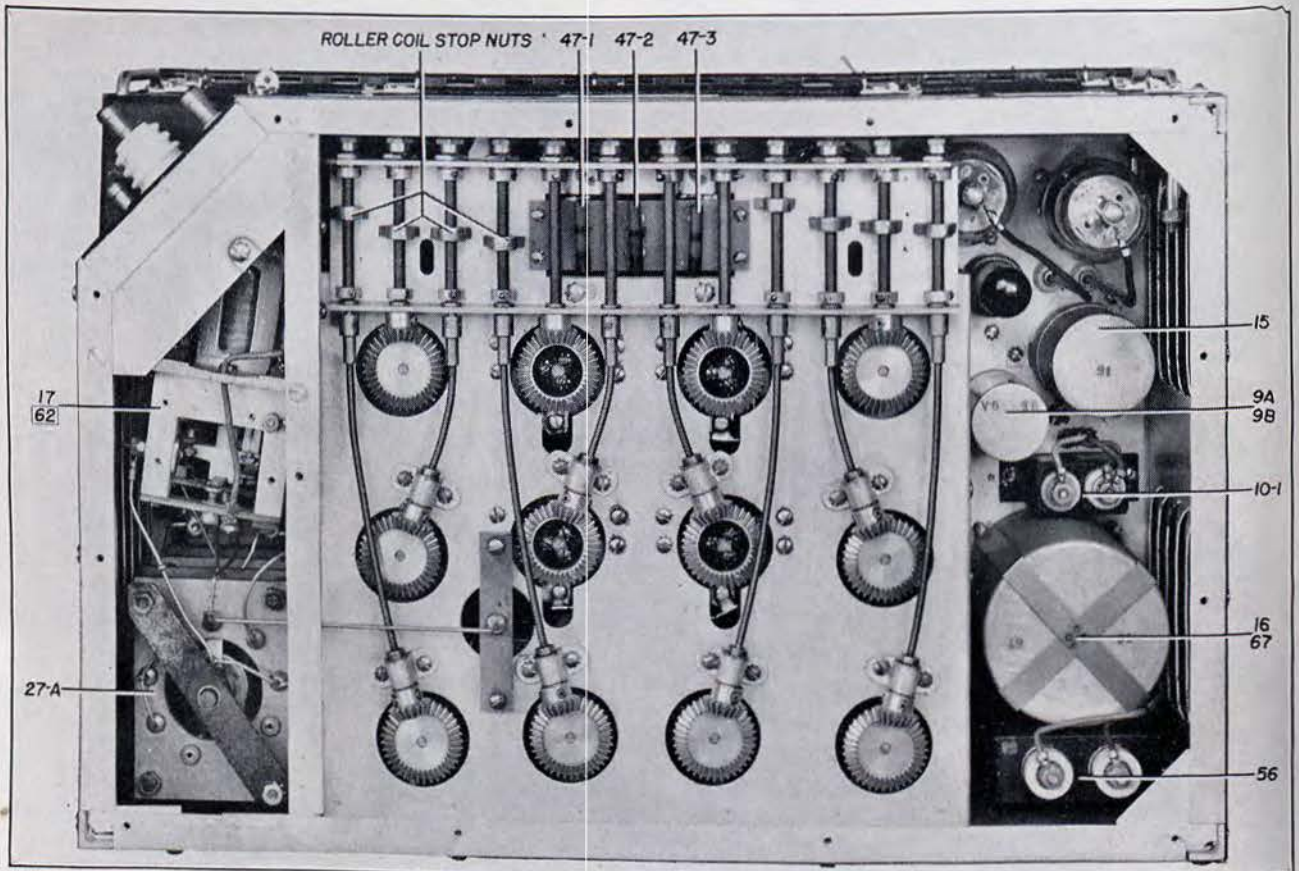

FIGURE 9—RADIO TRANSMITTER BC-338-A OR BC-353-A, TOP VIEW SHIELD REMOVED
1.5.1.3 *The Location of Principal Components:*—The principal component parts of Radio Transmitter BC-338-A or BC-353-A are located as shown in Figures 9 to 13, inclusive, and are as follows: